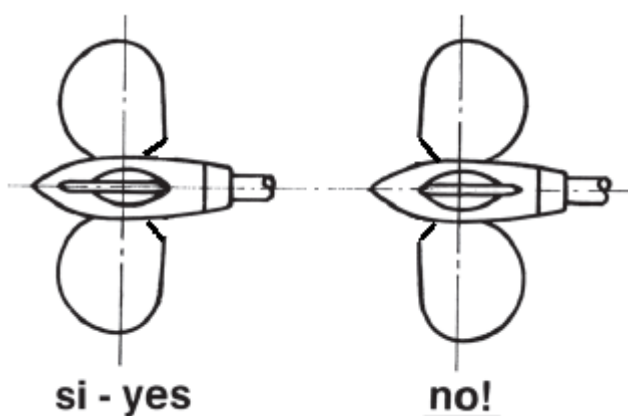

Fig. 6
Move the blades into the feathered position, making sure that the rounded trailing edges of the blades are aft as shown in Fig. 6
- *In the feathered position the blades must be perfectly lined up and set like Fig. 6*